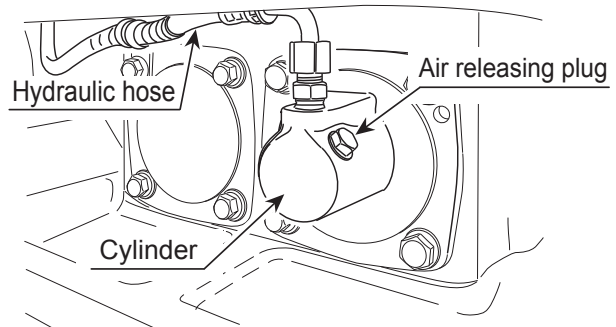

Figure 27. Removing Hydraulic Hose
6. Remove the hydraulic hose connected to the cylinder on the vibrator side (Figure 27).
11. Remove the air releasing plug of vibrator cylinder. Oil will then come out from the air releasing plug. After air bubbles stop coming out, reattach the plug. Tighten securely (Figure 27).